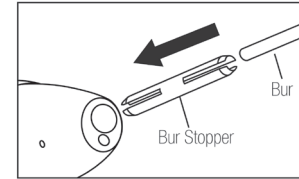

Fig. 2
2. Insert the supplied bur stopper into the chuck. (Fig. 2)